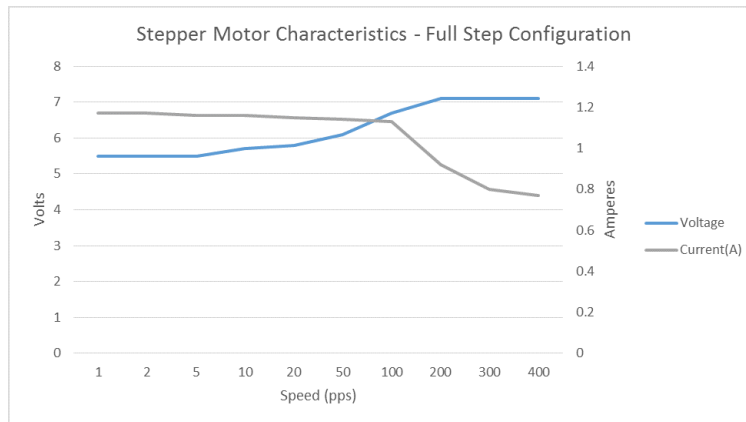

Figure 3.7: Voltage and Current vs Step rate for full stepping
A hybrid unipolar stepper motor was used to practically obtain voltage and current data and was plotted on the graphs depicted in Figures 3.7, 3.8 and 3.9. The motor used was 42STH60-1206A which is capable of providing 6.5Kgf.cm holding torque at the rated voltage of 7.2V and maximum 1.2A per phase. The current is proportional to the torque and thus has a downward trend similar to the graph in the previous section. The power supply used was a DC power supply with automatic switching between Constant Voltage (CV) and Constant Current (CC) modes. The maximum voltage and current were set to 7.2V and 1.2A respectively. The circuit was run for short durations to avoid overheating of the ULN2003 driver IC.